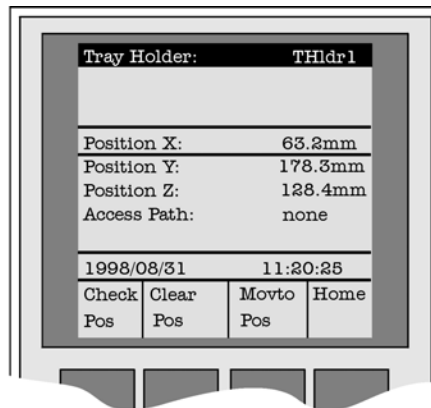

Figure 24. Menu Screen Object Trayholder
- 2 After selecting "Named Tray Holder" (e.g. THldr1 or Stack1), the **X Y Z** positions for the selected object will be displayed (see Figure 24).